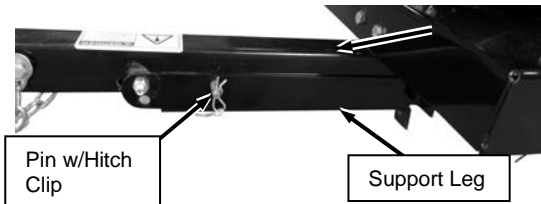

Figure 29
3. Rotate the Support Leg to the up (transport) position, align the holes in the Tow Bar and Leg, reinstall the Pin and secure with the Hitch Clip (**Figure 29**).